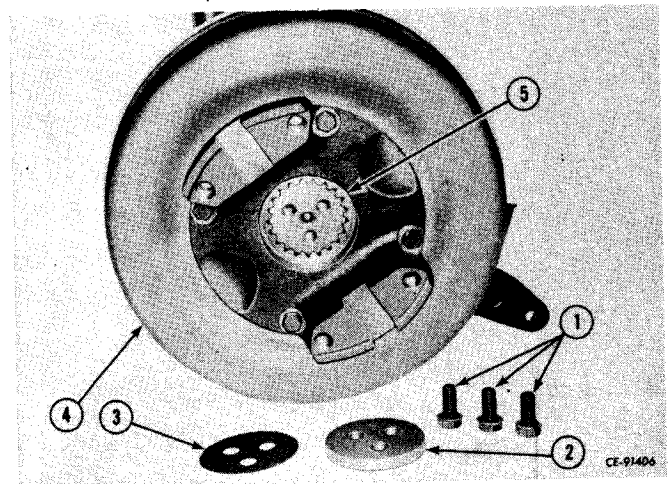

Figure 5-16
Remove lock wire from cap screws. Remove cap screws (1, Fig. 5-16), retainer (2) and seal washer (3) that secure the yoke and drum assembly (4) to shaft (5).
Place yoke and drum assembly (4, Fig. 5-16) on shaft (5) after lubricating seal lip and seal contact surface of yoke with clean, new transfer drive lubricant. Place a new seal washer (3), where used, on shaft. Install retainer (2) and new lock nut (1).